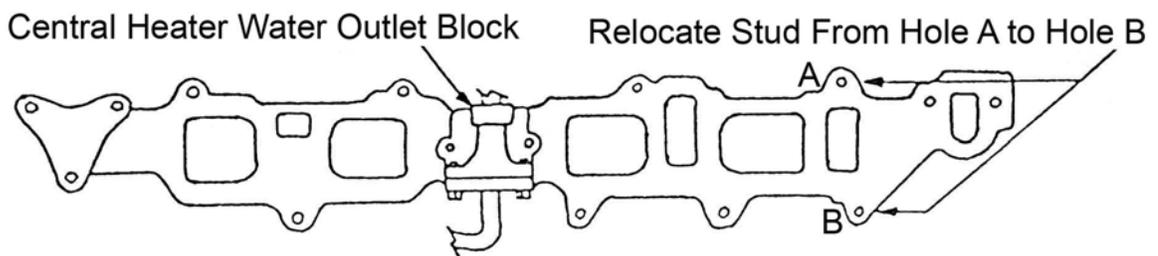

Figure 2
3. Relocate the top front inlet manifold stud from the cylinder head, **Figure 2**.